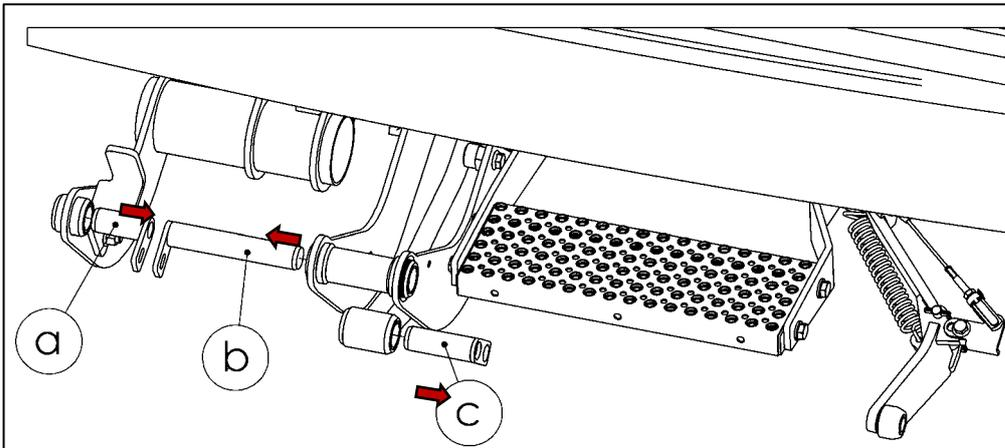

Figure 50
- Remove the pins a, b, c (see Fig. 50).